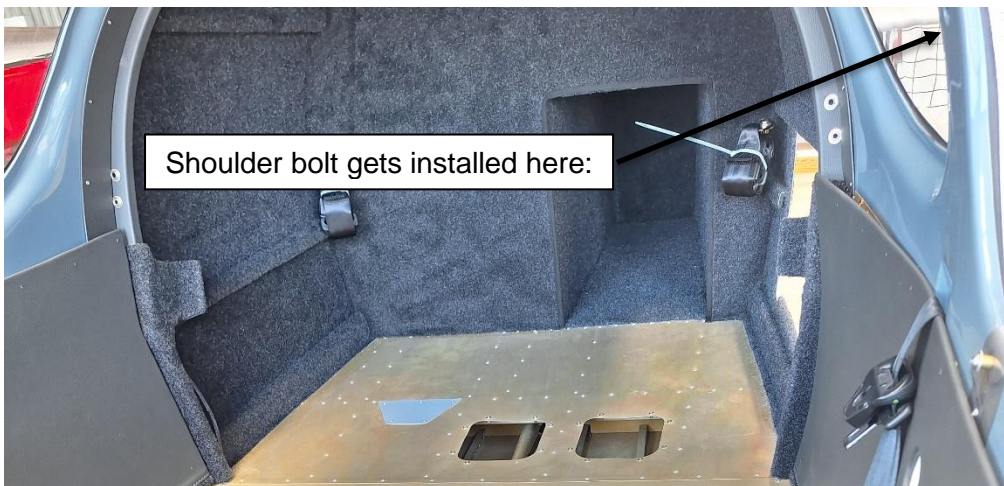

Figure 13: Seatbelt shoulder bolt installation location
- Step 1: Due to the manufacturing process, there is a potential for contaminants to be present on the thread of the hole that the shoulder bolt of the seatbelt screws into. Due to this, the threads need to be inspected, and are to be free and clear of any debris (such as weld splatter, paint, resin etc.). These will be present on both the left- and right-hand side of the cockpit. Figure 13 shows the location of the hole on left side of the cockpit.